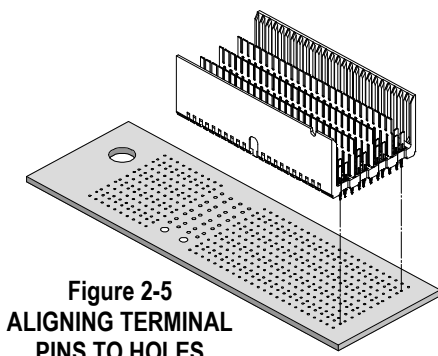

Figure 2-5
1. Carefully locate the connector(s) on the printed circuit board and start in by hand. Make sure pin 1 is in the correct position on all connectors. See Figure 2-5.